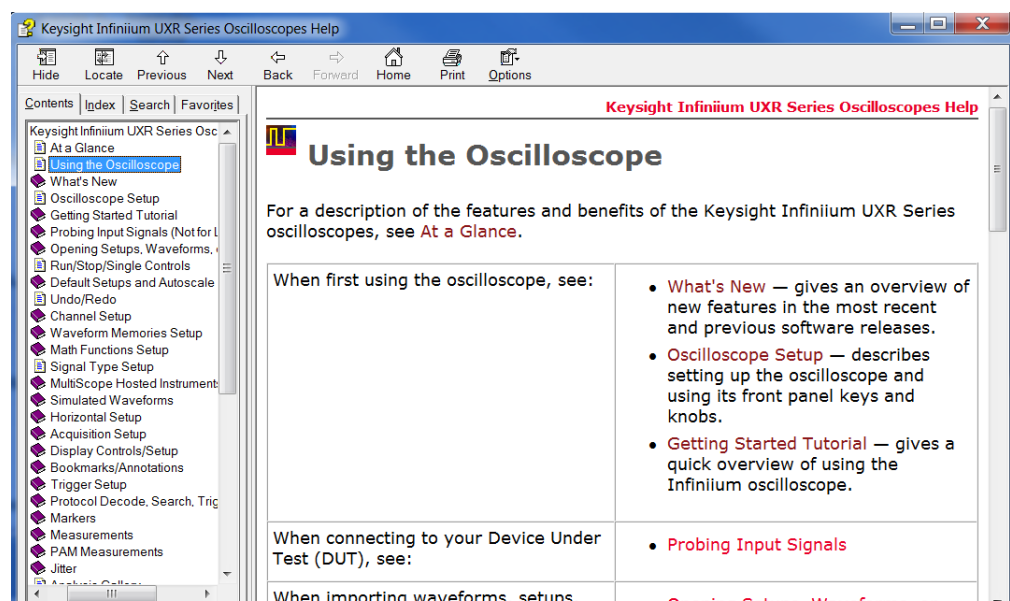

Figure 13 Online Help home page
- Choose **Help > Help Contents...** from the main menu to open the online help home page (**Figure 13**).